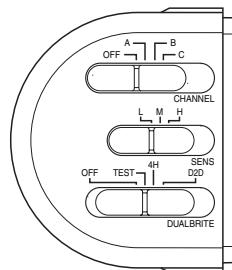

Figure 7
2. Slide the CHANNEL switch to OFF, the sensitivity (SENS) switch to the "L" position, and the DUALBRITE switch to the TEST position (see Figure 7). *Note:* The TEST mode overrides the photocell (daylight shutoff feature) and allows the light fixture to be tested day or night.